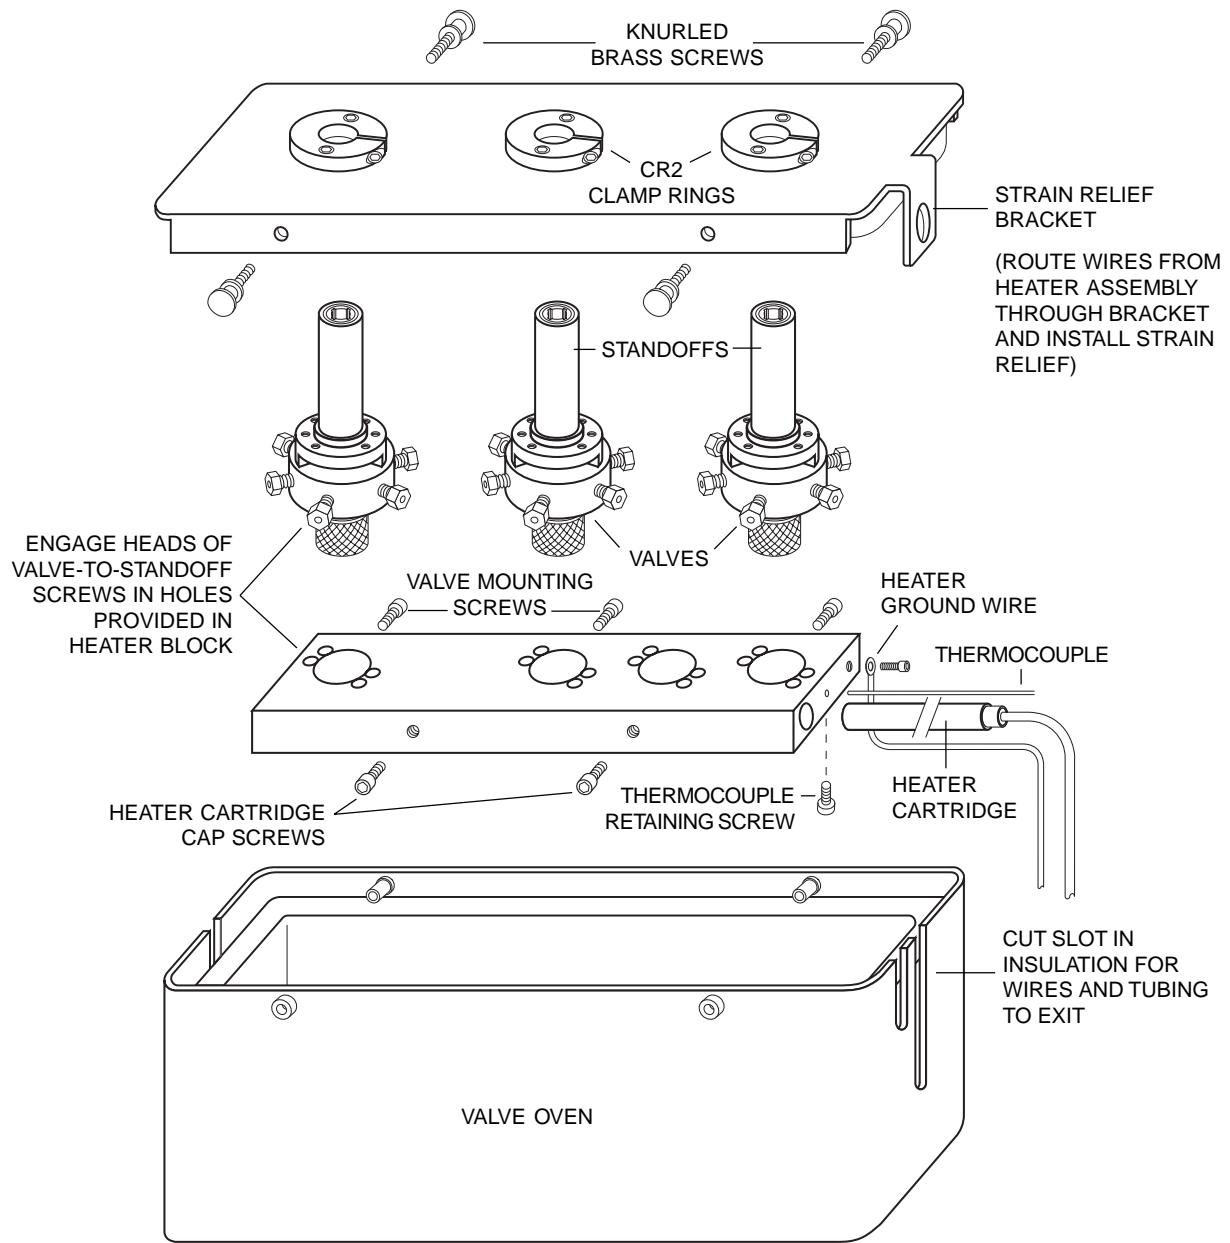

Figure 1: Exploded view of valve enclosure
4. Place the heater block on the valves. Make sure that each valve is fully inserted, with the valve body flat against the surface of the block. Tighten the cap screws to secure the block to the valves. (See **Figure 1**)
7. Attach the ring lug connector of the ground wire to the heater block at the point provided. (See **Figure 1**.) The heater must be grounded.